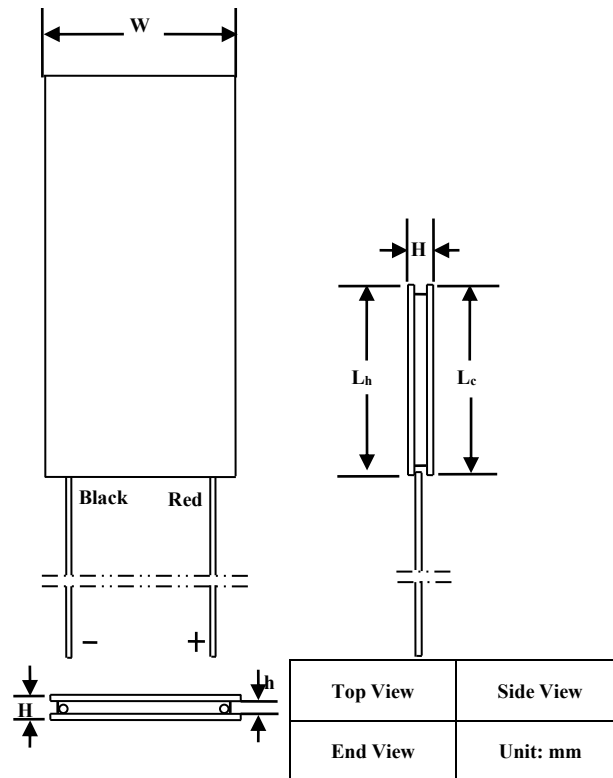

Figure 10. Mechanical Dimensions of ATE1-35
The ATE1-35 TECs come with 2 insulated lead wires. The positive wire is in red color, and the negative wire is of black. The mechanical dimensions are shown in Figure 10 and Table 1.
**Note:** As Figure 10 shows, when the red lead wire is on the right, then the top surface is the cold side of the TEC.